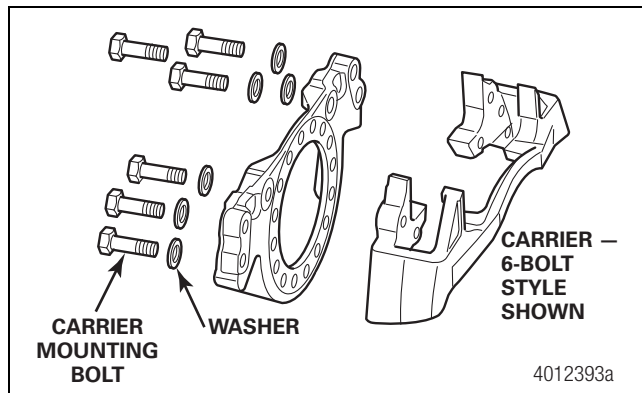

Figure 6
- **If one (1) bolt is loose (hand tight) or missing:** Use the appropriate kit to replace all of the mounting bolts with new bolts and washers. Proceed to Step 4.
- **If more than one (1) bolt is loose (hand tight) or missing:** Proceed to the "Caliper and Torque Plate Inspection" procedure in this publication.
- **For Meritor EX+ air disc brakes:** Use a 30 mm-size socket to tighten the carrier mounting bolts to 400 lb-ft (542 N•m). Use the special torque adapter, part number 3256B1354, where needed for access to the mounting bolts. When using the special torque adapter, use the settings shown in Table B for torque compensation. Figure 6.